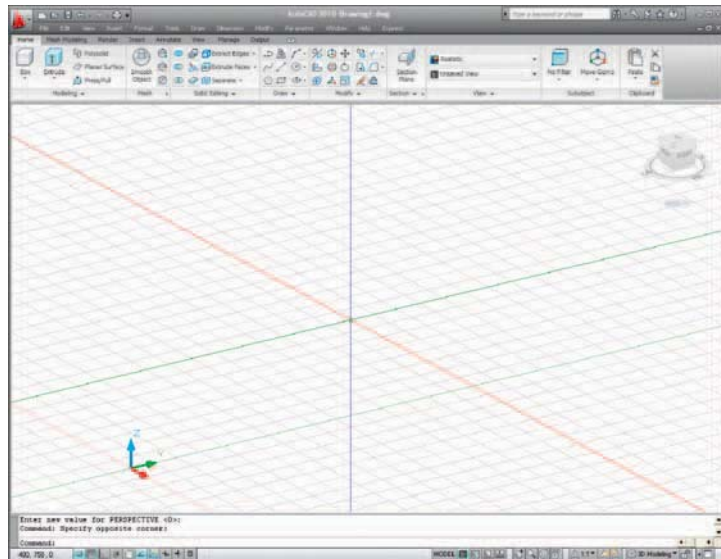

Fig. 15.2 The 3D Modeling workspace
2. The AutoCAD window (Fig. 15.2) appears.
Figure 15.2 shows the screen is in **Parallel** projection. Some operators may prefer the screen to be set to **Perspective** projection.